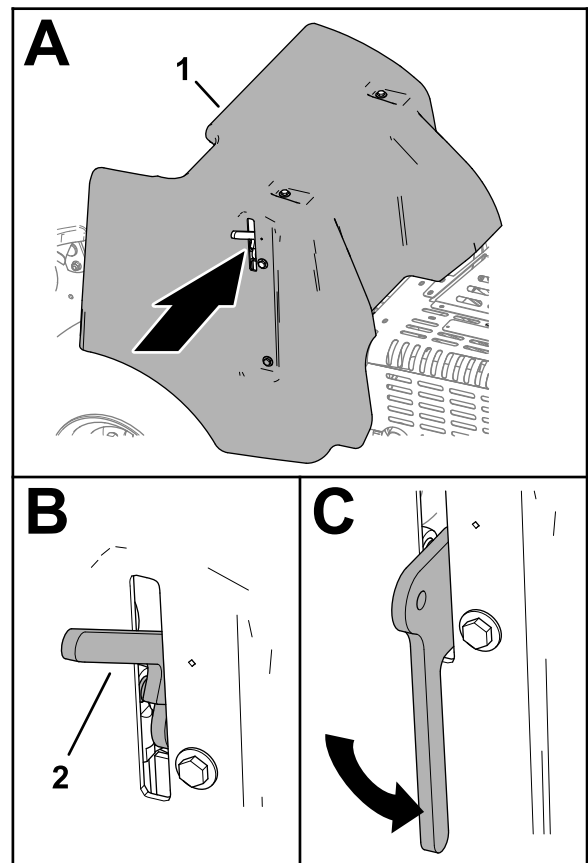

Figure 135
- Fully lower the latch handle to secure the cover (Figure 135).